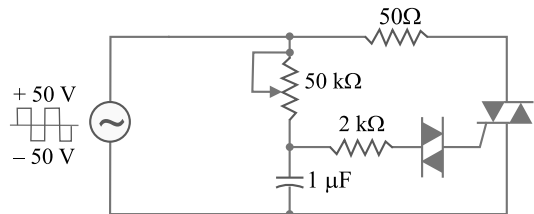

Fig. 19.37
7. If the triac of Fig. 19.37 has  $1\text{ V}$  across it when it is conducting, what is the maximum current through the  $50\Omega$  ? [ $0.98\text{ A}$ ]